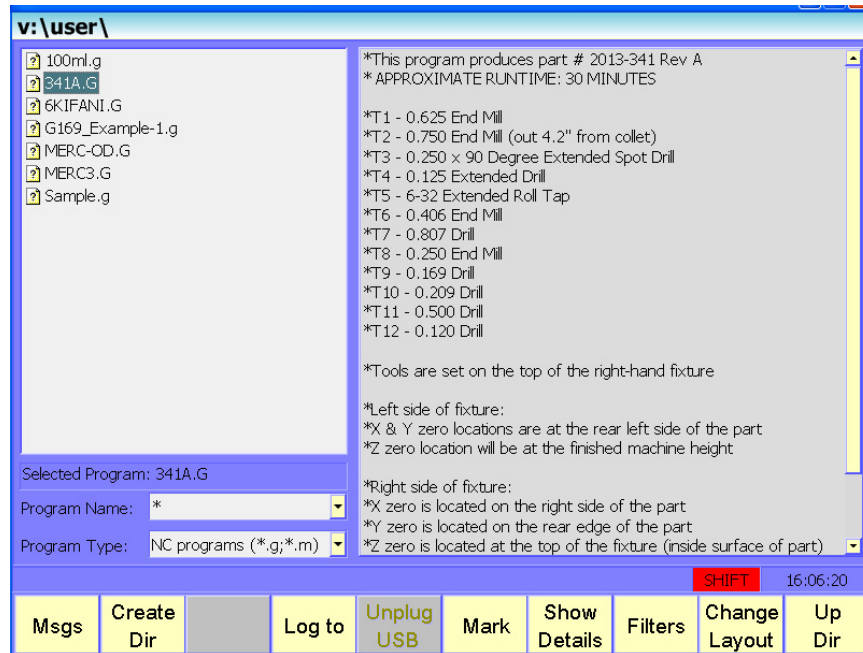

Figure 10-2, Shift Screen from Program Screen
Other functions related to the Program screen may be accessed using the **SHIFT** key. These functions are described in this section. Press the **SHIFT** key to display the Program Shift screen. Refer to Figure 10-2, Shift Screen from Program Screen.
Press **SHIFT** while in the Program screen to activate the secondary soft key functions (refer to Figure 10-2, Shift Screen from Program Screen). Refer to Table 10-2, Program Screen Secondary Soft Keys.
3. Press the **SHIFT** key on the keyboard to display the Shift screen from Program screen (refer to Figure 10-2, Shift Screen from Program Screen). Press **SHIFT** again to return to the Program screen.